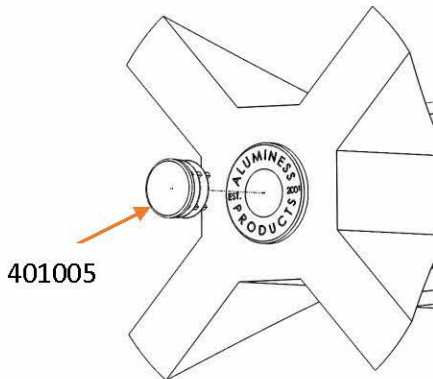

Figure 6: Snap in round plug
9. Once everything is securely fastened insert the snap in plug into the wedge mount. Reference Figure 6.